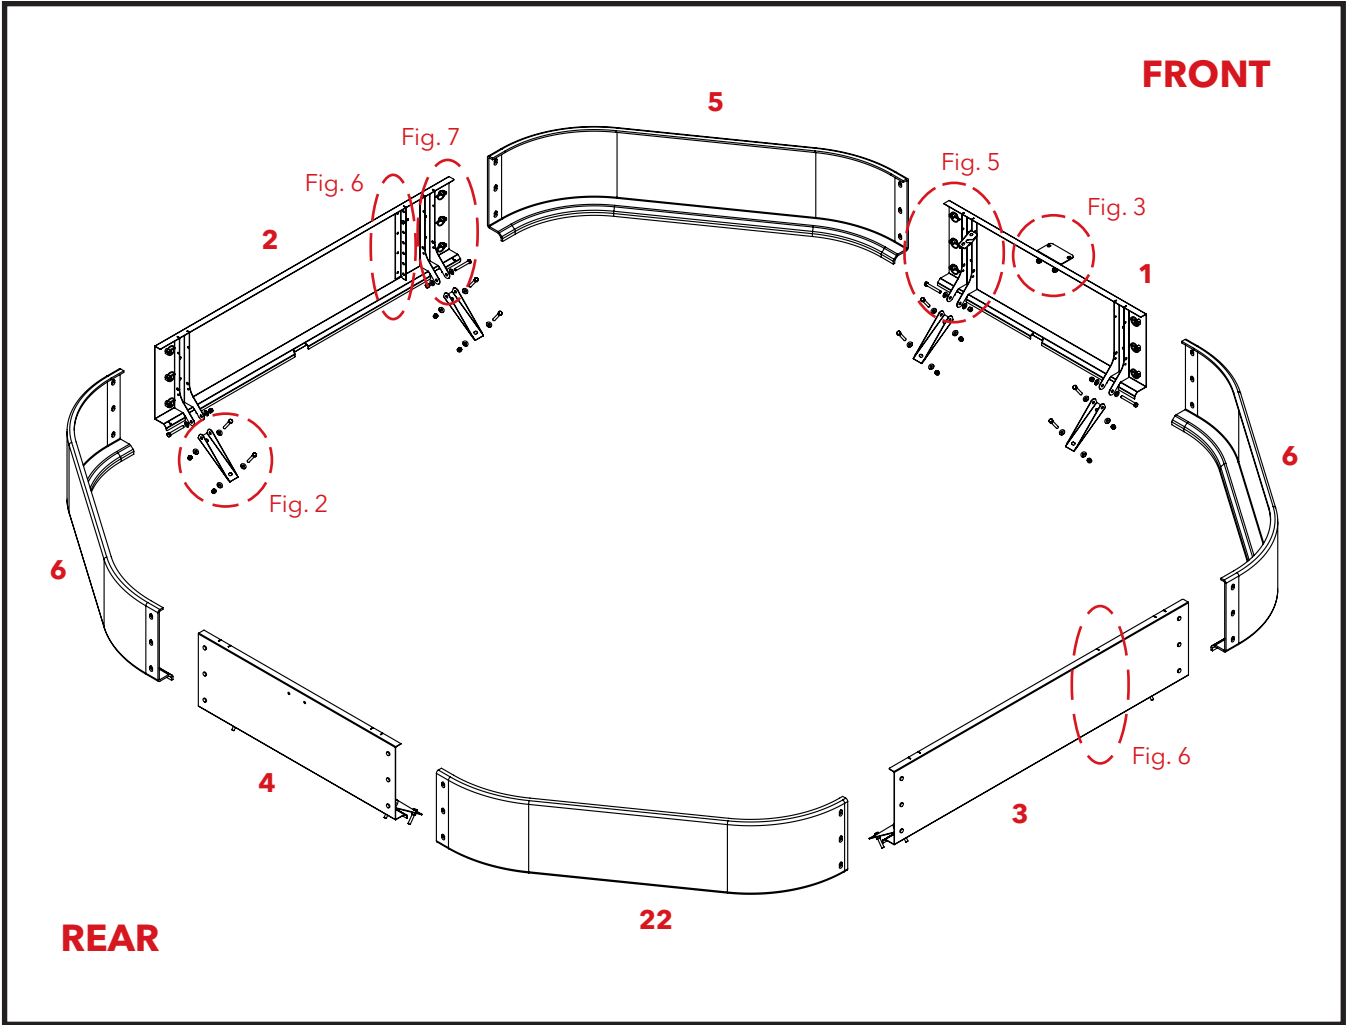

Figure 1
**NOTE:** Right rear plastic panel is shorter than others. Refer to part 22 in figure 1.
Remove the partial cut slugs from the front panel and fasten the provided GPS bracket to the outside of the panel using two 5/16" x 3/4" serrated flange bolts and two serrated flange nuts. See figure 1& 3 on page6.